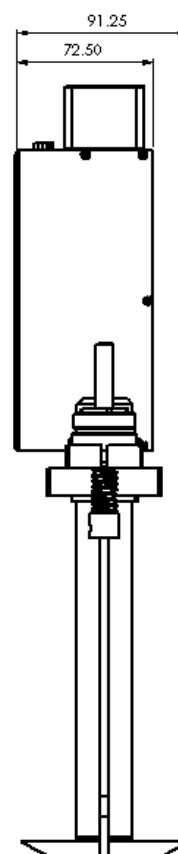

Figure 3-3 The right view of the controller
■ Left view installation drawing of the height controller and related dimensions, as shown in Figure 3-3.